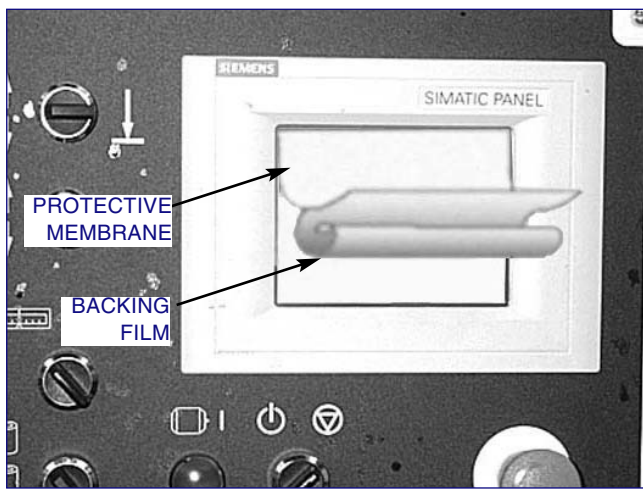

FIGURE 4-9, Touch Screen
4. Loosen protective (backing) film on back of new membrane; and starting on top (wide side) pull back film half way (*see Figure 4-9*).